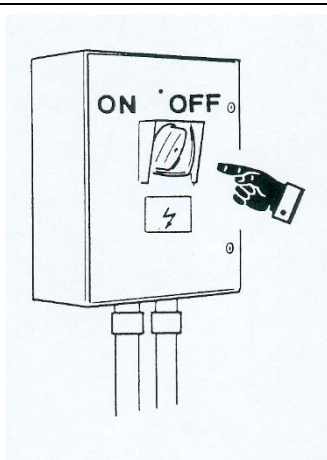

fig.19
- Check the suitability and correct functioning of the electric system (fig.19)